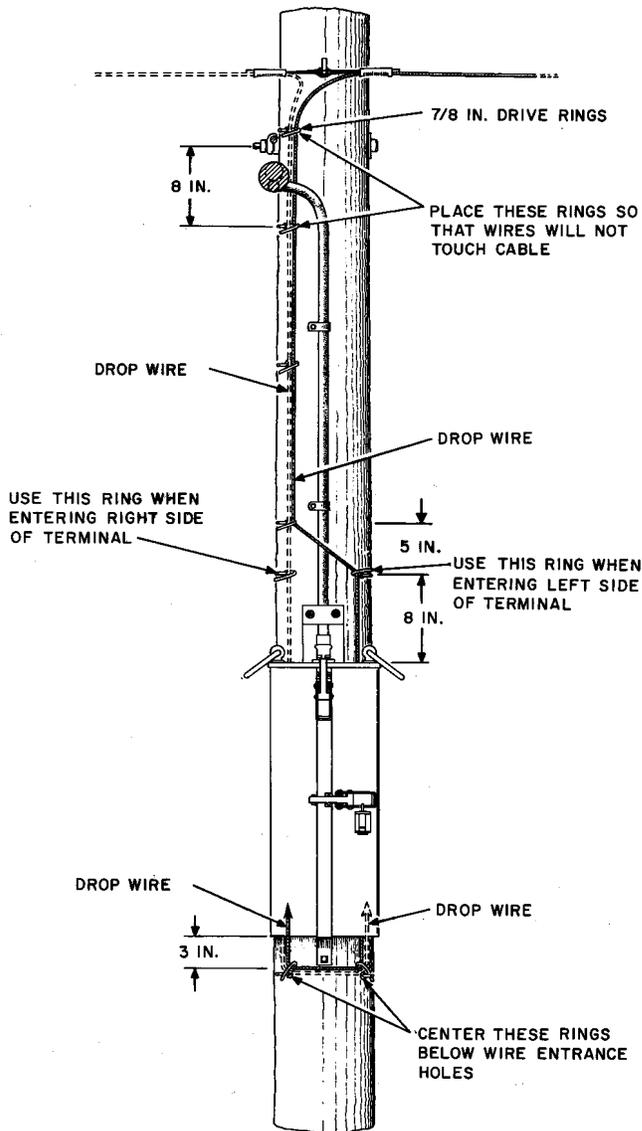

Fig. 8—Running Drop Wire at Cross-Connecting Terminal
- (a) Place drive rings on the pole as shown in Fig. 8.